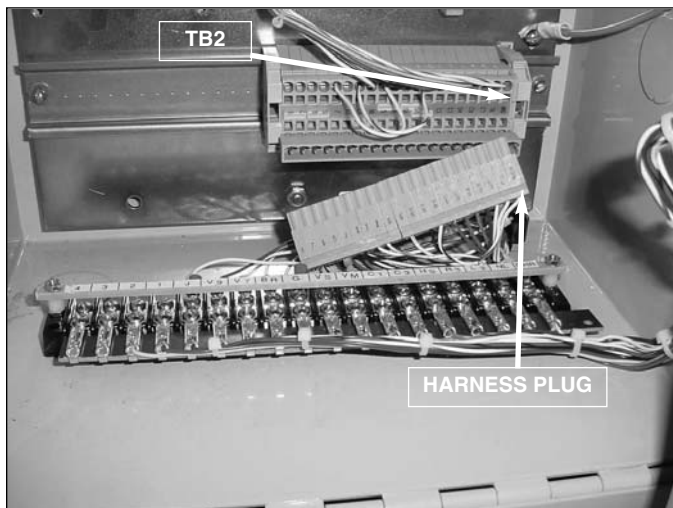

Figure 8.
14. Unplug the harness plug from the TB2 connector. This allows easier connection of the fanning strip to the 18 position terminal board (See Figure 8).